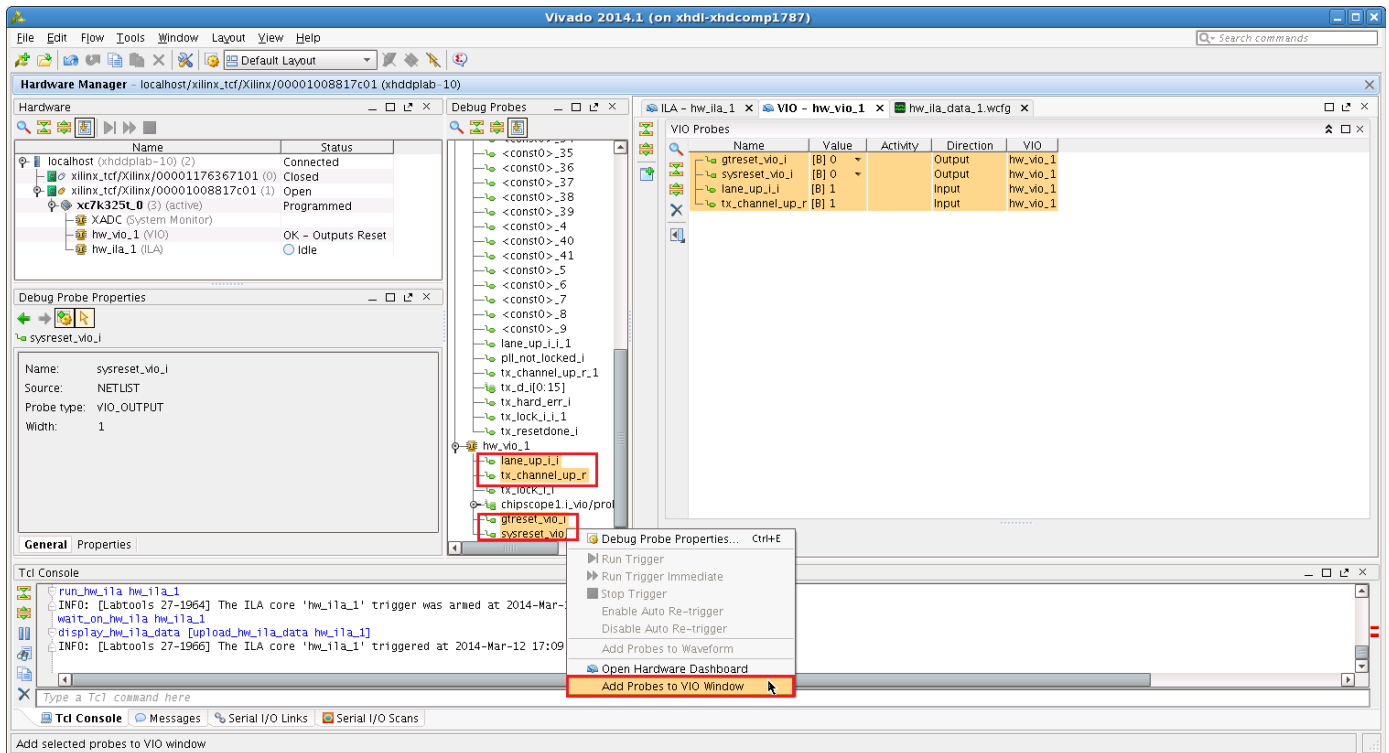

Figure 28: Add Probes to VIO Window
4. Right-click a highlighted signal and select **Add Probes to VIO Window** (Figure 28).